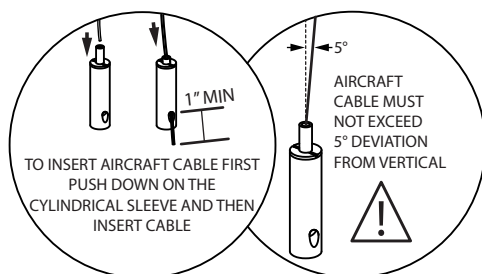

FIG 4
4. LIFT THE FIXTURE AND ATTACH THE LOOSE ENDS OF THE AIRCRAFT CABLES TO THE CABLE GLIDERS (SEE FIG 4)